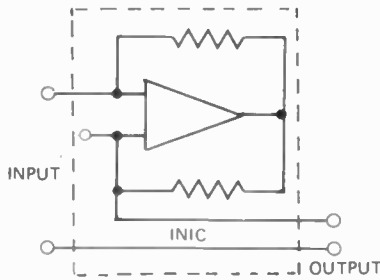
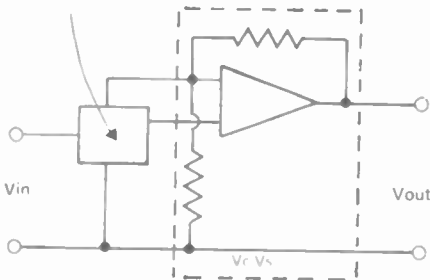

Fig. 11. Realising an INIC with an op-amp.
Fig. 15
3. The negative-emittance or negative impedance converter NIC. This is a most interesting system block for it enables positive value capacitance or resistance (that obtained with normal capacitors and resistors) connected at its input to appear as negative value capacitance or resistance at its output. It enables circuit designers to physically build circuits requiring non-physical negative capacitors and resistors. (INIC indicates an ideal current-inversion NIC, and VNIC indicates an ideal voltage – inversion NIC). A typical realisation is shown in Fig. 11.
The other options open to us are to use an op-amp set up as either a controlled source with added elements – see Fig. 15, or as the negative-impedance converter shown schematically in Fig. 11. These can offer certain advantages over the voltage-amplifier designs but suffer some disadvantages. NIC devices, for instance, do not give the ideal zero output impedance. Stages must be buffered to retain designed